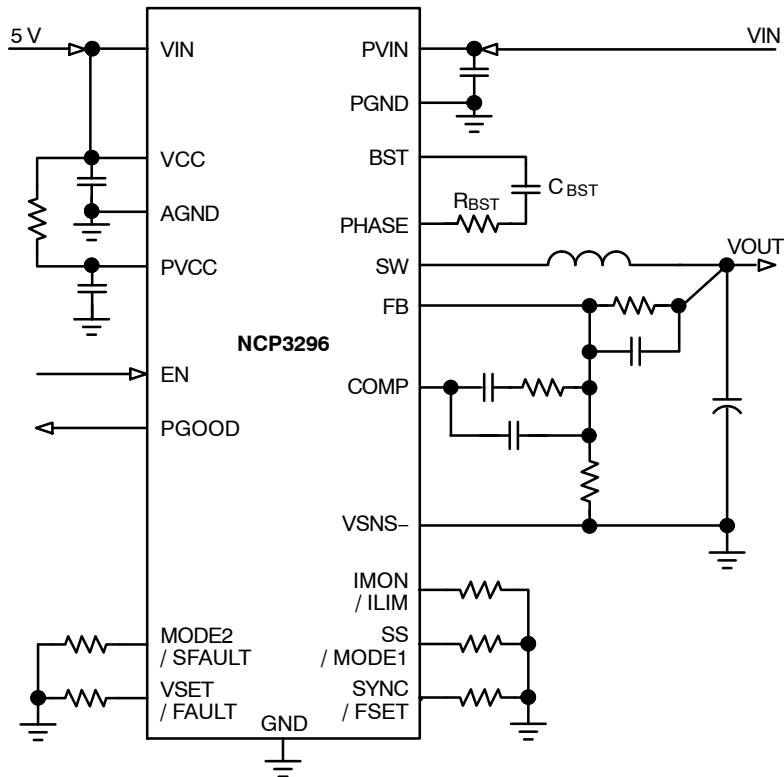

Figure 2. Typical 12 V_{IN}, 40 A Application Circuit with External 5 V VCC Supply (LDO Disabled)
5. Operation at $<4.5V_{IN}$ requires external 5 V supply be applied to the VIN and VCC pins per Figure 2.